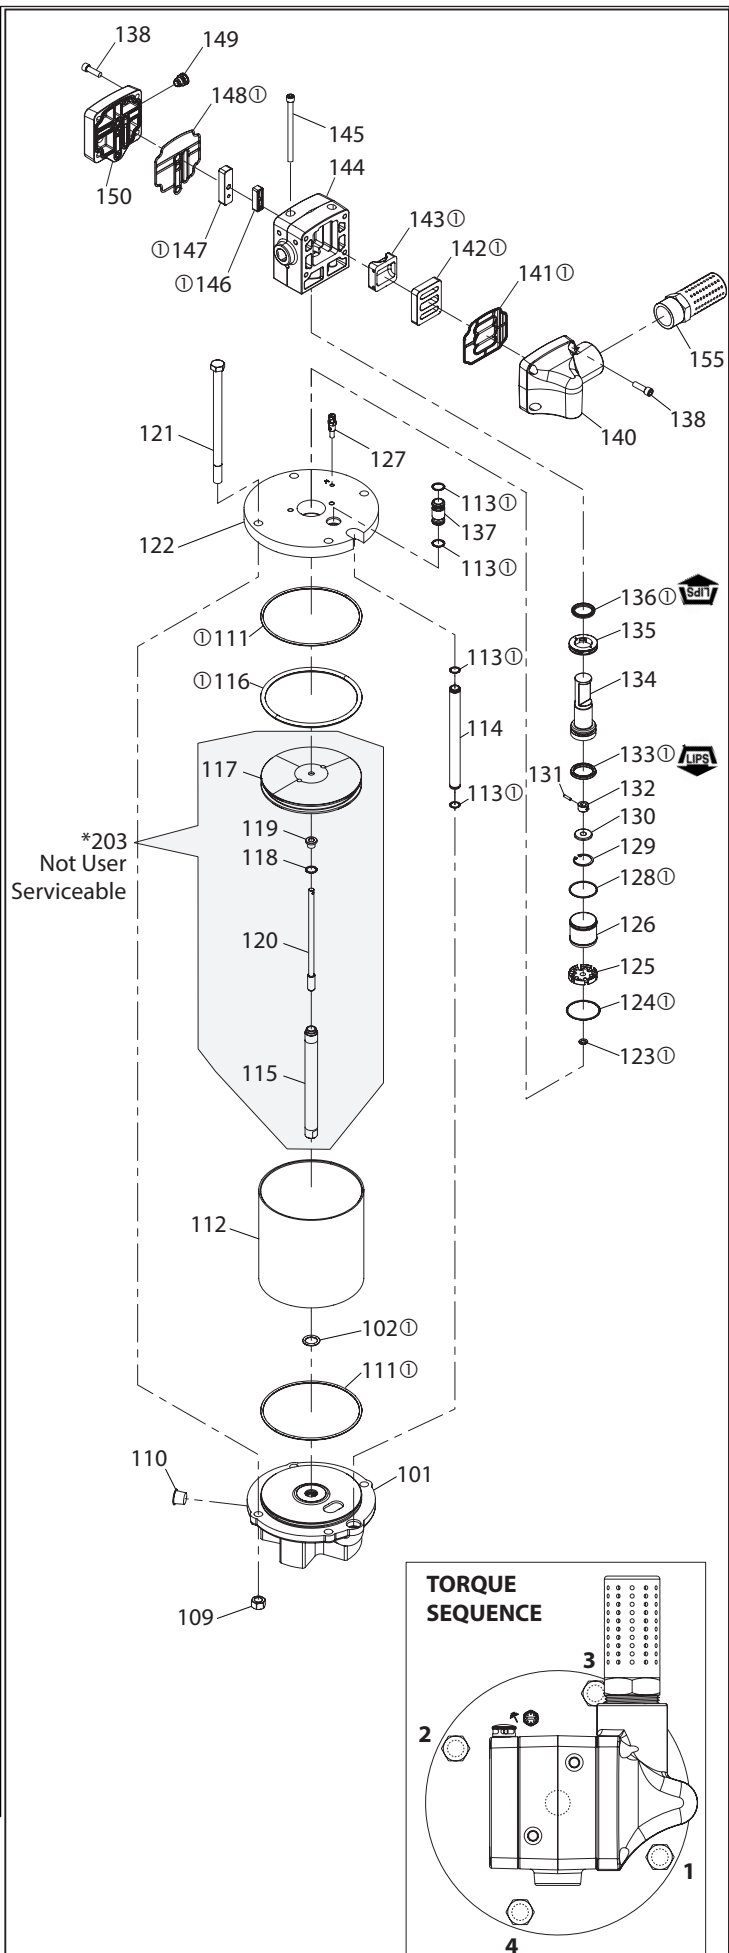

Figure 2
2. For model AF0660-XX, install (151) washer, (152) U-cup, (153) washer, and (154) snap ring into the (101) base assembly. For all other models, install the (102) O-ring into the (101) base assembly.
3. Install the (111) O-ring in the groove on the (101) base assembly.
4. Install the (116) O-ring in the groove on the (117) piston.
5. Push (115) piston rod thru the (101) base assembly, being careful not to damage the lips of the (152) U-cup or the (102) O-ring.
6. Lubricate the inside diameter of the (112) air cylinder and slide it down over the (203) piston assembly and onto the (101) air motor base assembly. (See Figure 2 on Page 2).
7. Align notch in (122) head plate with the port in (101) base assembly and press the (122) head plate down until it is seated against the (112) air cylinder. The (120) trip rod assembly must lead thru the center of the (122) head plate.
8. Assemble the four (121) bolts thru the (122) head plate and the (101) base assembly.
9. Assemble the four (109) nuts to (121) hex head bolts and tighten per specified torque sequence and value.
10. Pull the (120) trip rod assembly as far out of the air motor assembly as possible, slide the (123) O-ring over the (120) trip rod assembly and down into the gland found in the (122) head plate.
11. Slide the (125) cap over the (120) trip rod assembly and down into the bore found in the (122) head plate.
12. Slide the (129) snap ring first and the (130) washer secondly, onto the (120) trip rod assembly.
13. Slide the (132) driver onto the (120) trip rod assembly. Align the hole of the (132) driver with the hole in the (120) trip rod assembly and insert the (131) pin.
14. Assemble the (133) U-cup to the (134) spool. Take note of the (133) U-cup lips should point down towards the (122) head plate.
15. Slide the (134) spool onto the (120) trip rod assembly over the (132) driver and insert the (130) washer behind it. Utilizing snap ring pliers, assemble the (129) snap ring to the internal groove found in the (134) spool. Be certain that the (129) snap ring is fully engaged into the groove. Slide the (134) spool downward into the bore of the (122) head plate nesting on top of the (125) cap.
16. Lubricate the inside diameter of the (126) sleeve and slide it onto the (134) spool and locating it into the (125) cap. Take note that large taper on (126) Sleeve is to locate into (125) Cap.